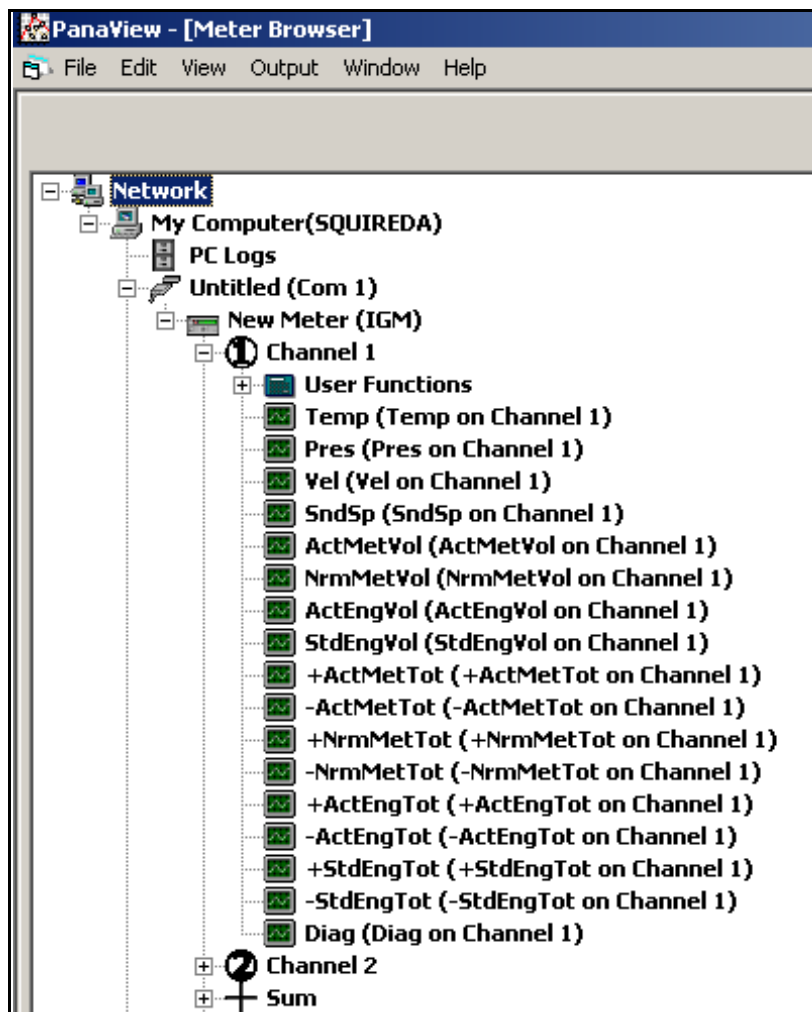

Figure 61: PanaView Output Menu
4. Click on the + sign before each level to open it. See *Figure 61* below and *Table 9* on page 70 for details on the available options.